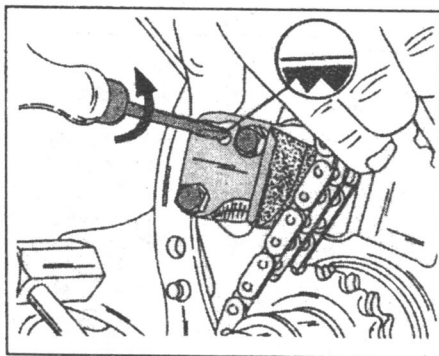

Fig. 1.20. — A Sedis chain tensioner is operated by an internal mechanism which must be locked in position before it can be removed.
- Insert a screwdriver as shown in Fig. 1.20 into the chain tensioner bore and press against the chain tensioner pad to release it from the chain. Lock the chain tensioner by turning the screwdriver in the direction of the arrow. The ratchet inside the tensioner will lock the pad in position.